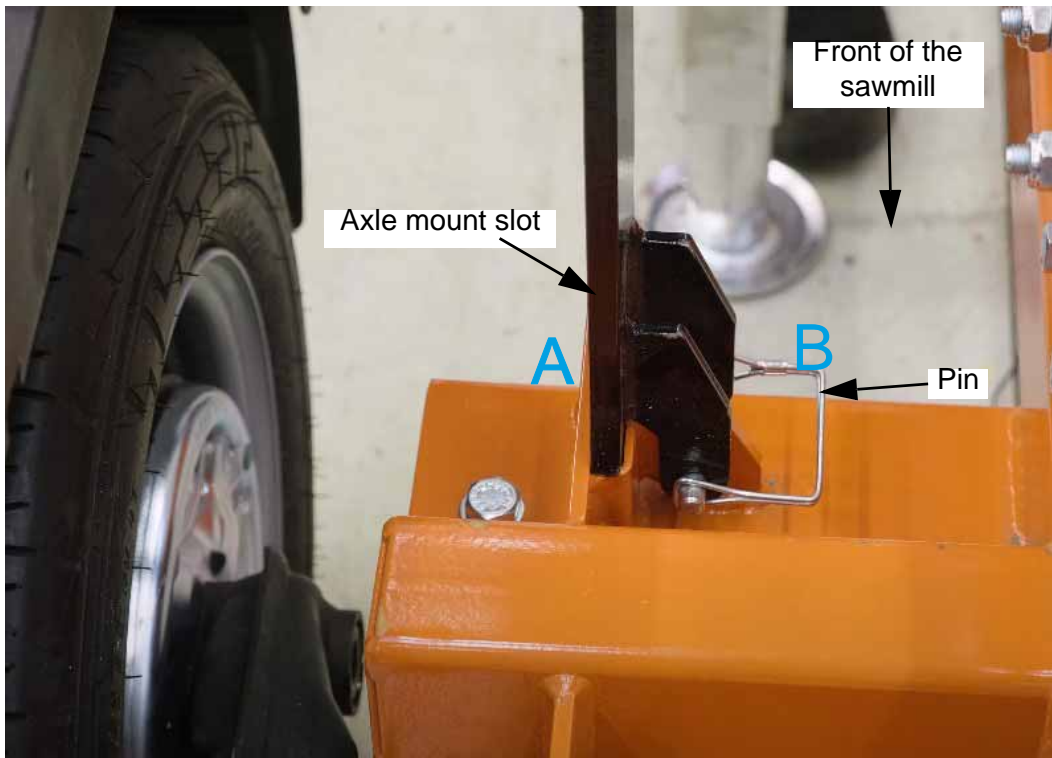

FIG. 4-22
See figure 4-22. Install the assembled fender in the axle mount slot (A) and secure with the pin (B). Secure the pin with steel cable. Plug the lighting cables into the socket. Repeat the process on the other side.